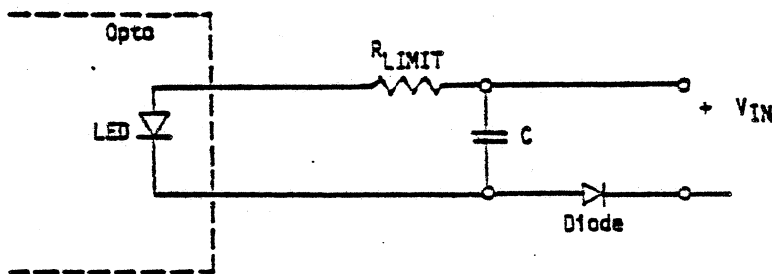

Figure 3-6. Pulse Stretching Capacitor
When the input voltage to the network ( $V_{\text{IN}}$ ) is a pulse less than 20 microseconds, the switching time of the opto-isolator may be too slow to react to it. To add flexibility to the inputs so that short pulses can be detected, pads are provided to form a pulse stretching capacitor (C) as shown in Figure 3-6.